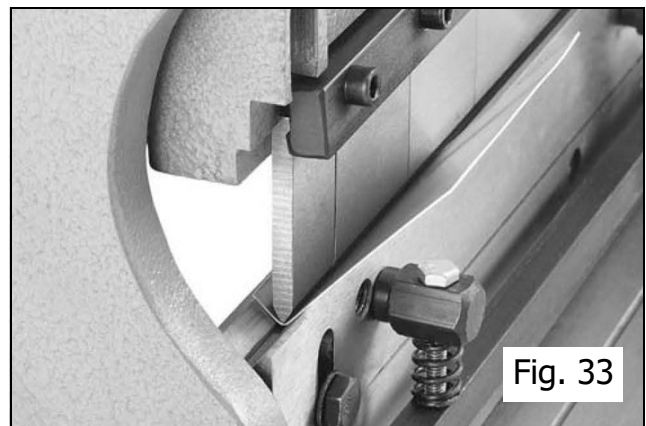

Fig. 33
3. While holding the workpiece steady, use the hand crank to raise the finger receiver to perform the desired bend (see Figure 33 for an example), then lower the receiver and remove the workpiece.